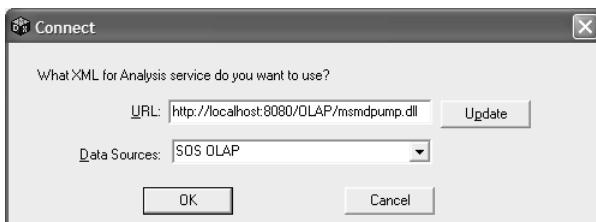

Figure 17.7 When tracing a local or a remote server, redirect the requests to Soap Trace by changing the connection string to *localhost:8080*.
1. Start the XMLA Sample Application or whatever client you are using to send XMLA requests. Change the connection string (Figure 17.7) to redirect traffic to *localhost:8080* irrespective of whether you use a local or a remote SSAS server. Essentially, a trace utility tricks the client application into believing that it sends requests to a real server while, in practice, the trace utility intercepts the request and forwards it to the remote server.